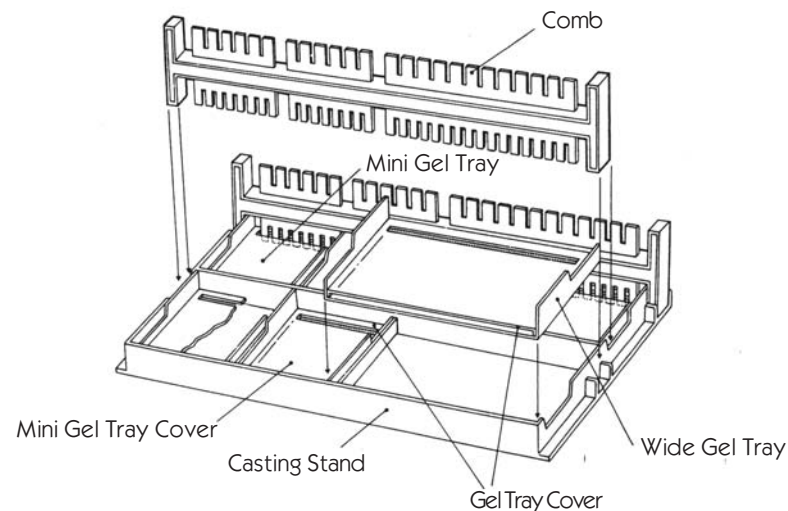

Figure 1: RunOne Casting System
- Place the agarose gel trays in the casting stand (see Figure 1). **Allow the agarose gel solution to cool to 65-70° C before pouring. Failure to do so could warp the gel tray.**